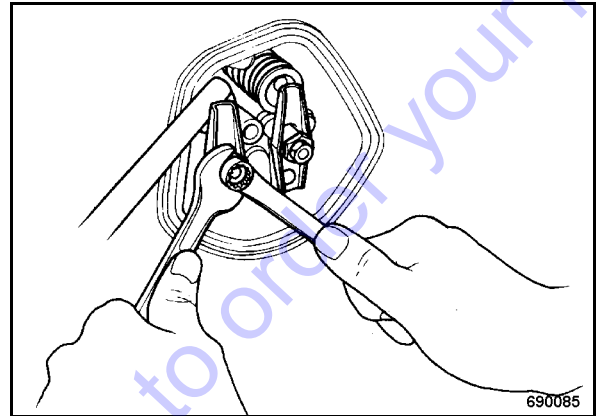

Fig. 62
- Check the valve clearance with a feeler gauge on both valves (Fig. 62).